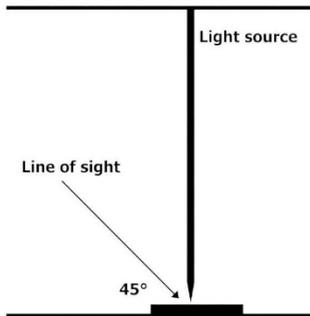

Figure 1
6. View the article per Figure 1. When the light is projected on to the article at a right angle, it should be views at 45°.